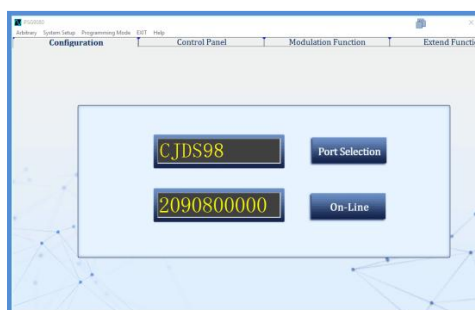

Figure 3-9-13
- Step 3: The connection is successful. The interface for successful connection is shown as Figure 3-9-13.